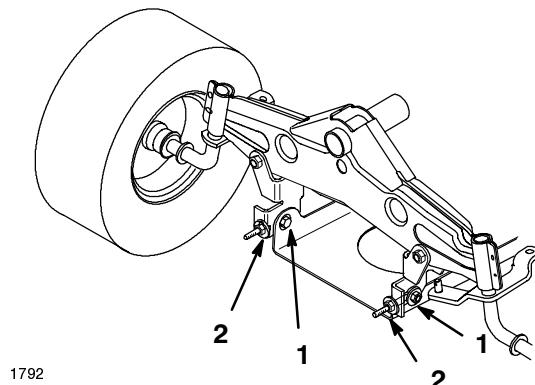

Figure 57
6. To adjust front-to-rear blade slope loosen front pivot plate mounting bolts slightly (Fig. 57).
7. Rotate lock nuts on eyebolts to change adjustment (Fig. 57). To raise the front of the mower tighten the eyebolt lock nuts. To lower the front of the mower loosen the eyebolt lock nuts.
8. After adjusting both eyebolt lock nuts evenly, check the front-to-rear slope again. Continue adjusting eyebolts until the front blade tip is  $0-5/16"$  (0-8 mm) lower than the rear blade tip (Fig. 57).
9. When front-to-rear slope is correct, tighten the pivot plate mounting bolts (Fig. 57).